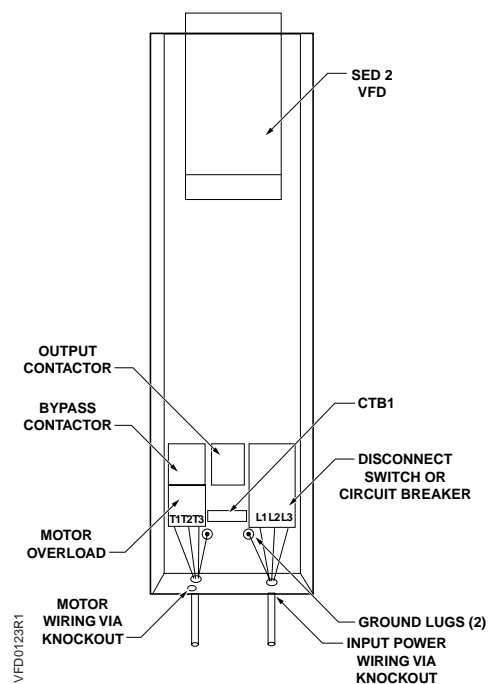

Figure 7
1. Route shielded twisted pair (recommended wire type) cable, 24 gauge minimum *control wiring* in conduit through knockout and into housing (Figures 7 through 9). Connect control wiring per job-specific drawings.
2. Route motor wiring in conduit through knockout and into housing (Figures 7 through 8). Connect motor wiring to motor overload and ground lug. See Tables 1 through 4 for wire sizes and tightening torques.
3. Route input power wiring in conduit through knockout and into housing (Figures 7 through 8). Connect input power wiring to disconnect switch and ground lug or to circuit breaker and ground lug. See Tables 1 through 4 for wire sizes and tightening torques.